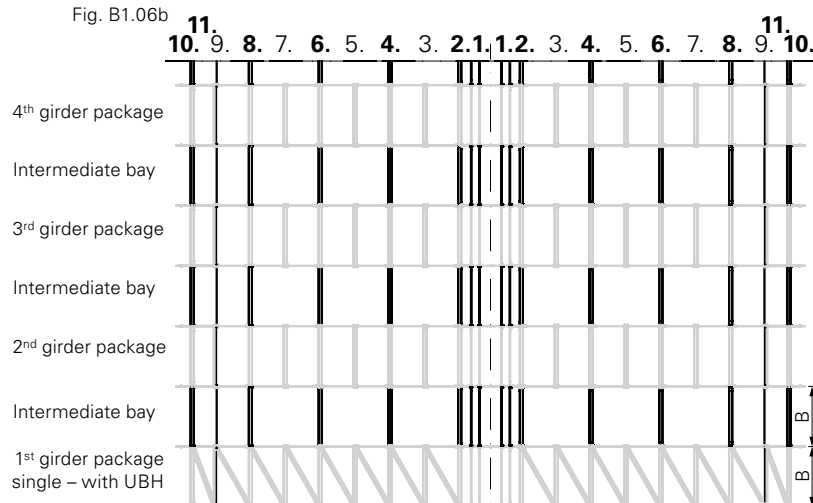

Fig. B1.07a
- 1st girder package, single (Fig. B1.07a)